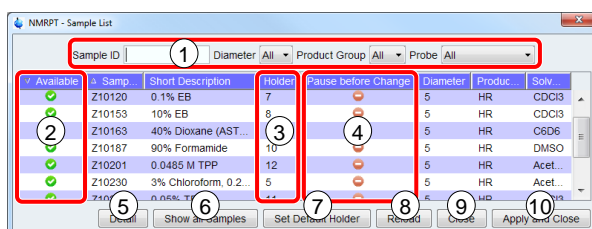

Figure 5-33: Sample List
### Sample List Dialog (Figure 5-33)
In Sample List dialog (Figure 5-33) select a sample and click **Detail** (Figure 5-33 (5)) to open Sample Detail dialog.
In Sample List dialog (Figure 5-33) click Show all Samples (Figure 5-33 (6)) to open Show all Samples dialog.
- (1) The filter bar (1) allows to list only samples matching the selected criteria in the sample list below. Available criteria are: **Sample ID**, **Diameter**, **Product Group** and **Probe**.
- (2) The status icons in **Used** column (2) show if a sample was used in *NMRPT* before (independent of its current availability status (Figure 5-33 (2))). A green icon 🟢 means used, a red icon 🔴 means not used.
The creation of a Customer Sample needs to be applied to the Sample List by Apply and Close button (Figure 5-33 (10)). The same experiments assigned to the original standard sample are assigned to the Customer Sample and the Pairings can be added to an Inspection Lot on Inspection Lot tab.
A Customer Sample that is part of an Inspection Lot can not be deleted. The sample-experiment Pairings have to be removed from Inspection Lots first. The deletion of a Customer Sample needs to be applied to the Sample List by Apply and Close button (Figure 5-33 (10)).
(5) Click **OK** (5) to apply all changes of Customer Samples and to close Show all Samples dialog.
(6) Click **Cancel** (6) to discard all changes of Customer Samples and to close Show all Samples dialog.